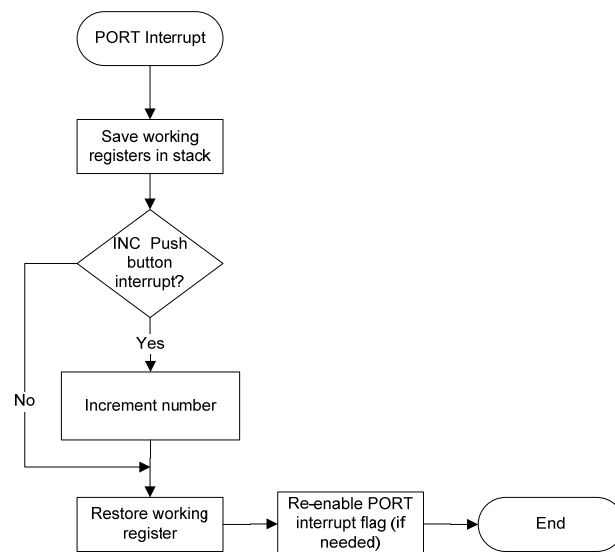

Figure 1: ISR flowchart.
3. Write the code for your ISR. The ISR just needs to increment the value of a (global) variable each time it is executed. Remember to make your ISR register transparent. The flowchart in Figure 1 can guide in writing the ISR.